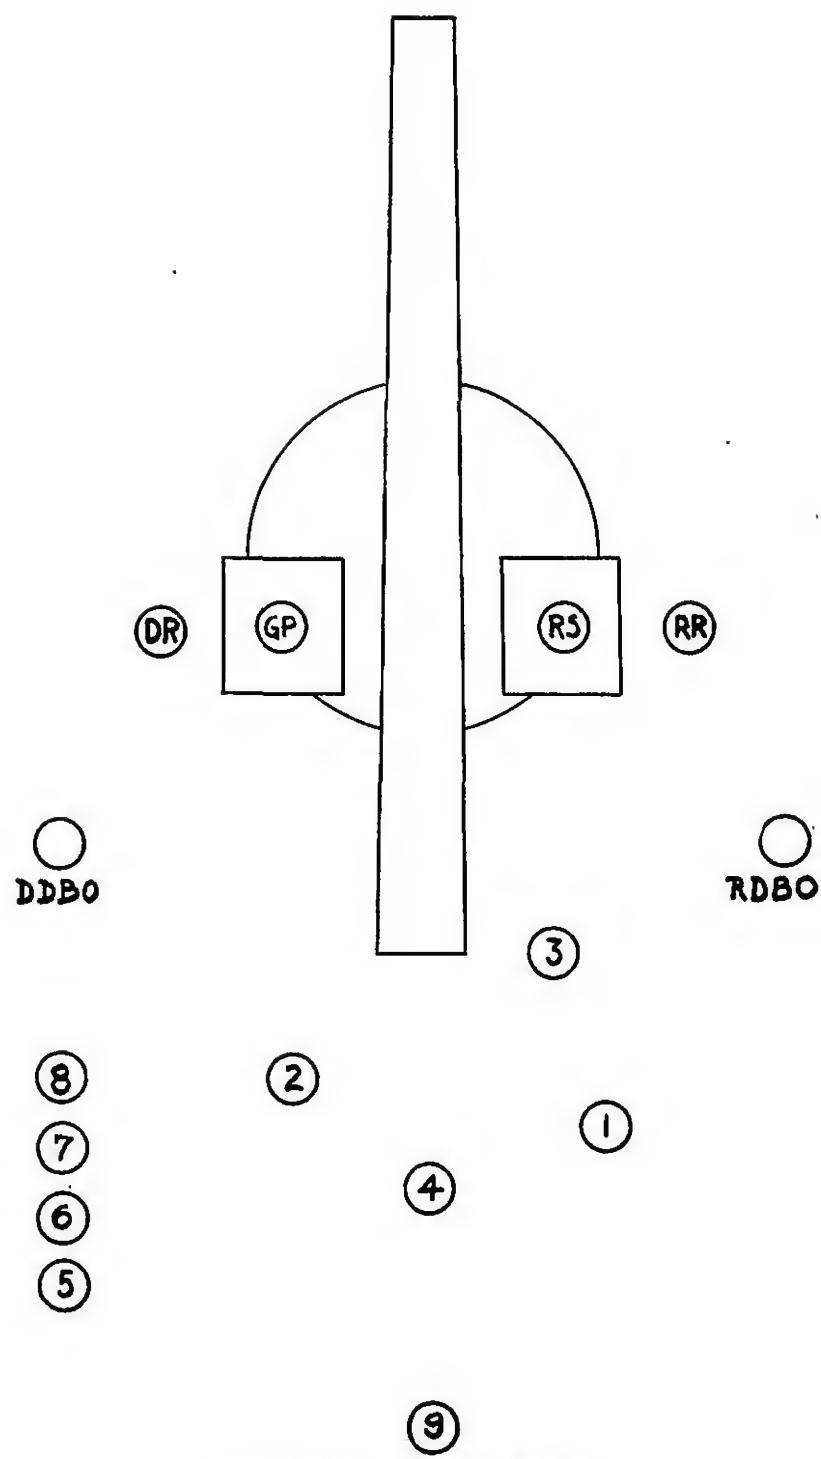

FIGURE 2.—Details, posts.
b. He commands: 1. DETAILS, 2. POSTS, when the section arrives in rear of the emplacement, and supervises the procuring of equipment. After all details have reached their posts (fig. 2), he commands: EXAMINE GUN. He then makes an inspection of the gun, carriage, and other matériel, paying special attention to the recoil cylinder, firing mechanism, safety devices, and the oiling of the various bearings. He receives the reports of the chief of ammunition and of the various details of the gun squad, and reports to the officer in charge of the emplacement, "Sir, No. _____ in order," or reports defects which he is unable to remedy without delay.